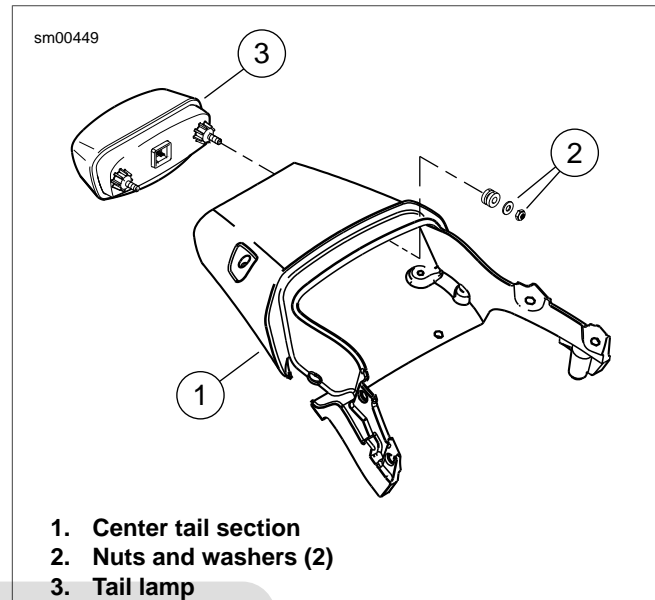

Figure 6-68. Tail Lamp Assembly: Ulysses
3. See Figure 6-68. Remove nuts and washers (2) securing tail lamp (3) to center tail section (1) and remove tail lamp.
1. See Figure 6-68. Install tail lamp (3) with nuts and washers (2) to the center tail section (1).